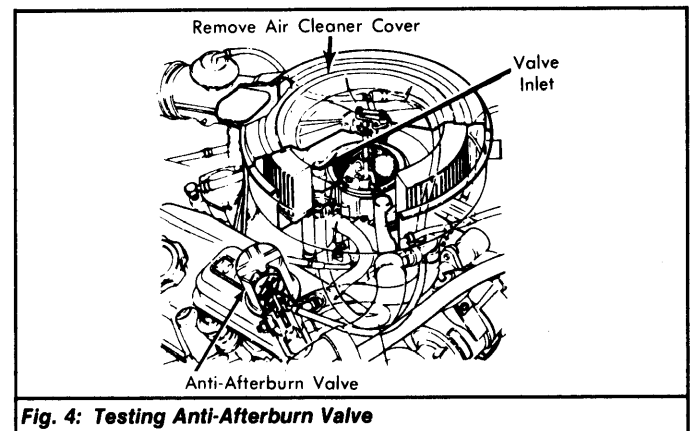

Fig. 4: Testing Anti-Afterburn Valve
- 1) Remove air cleaner assembly cover and start engine. With engine at idle, check for vacuum at valve inlet. Raise engine speed to 3500 RPM and close the throttle quickly. See Fig. 4.